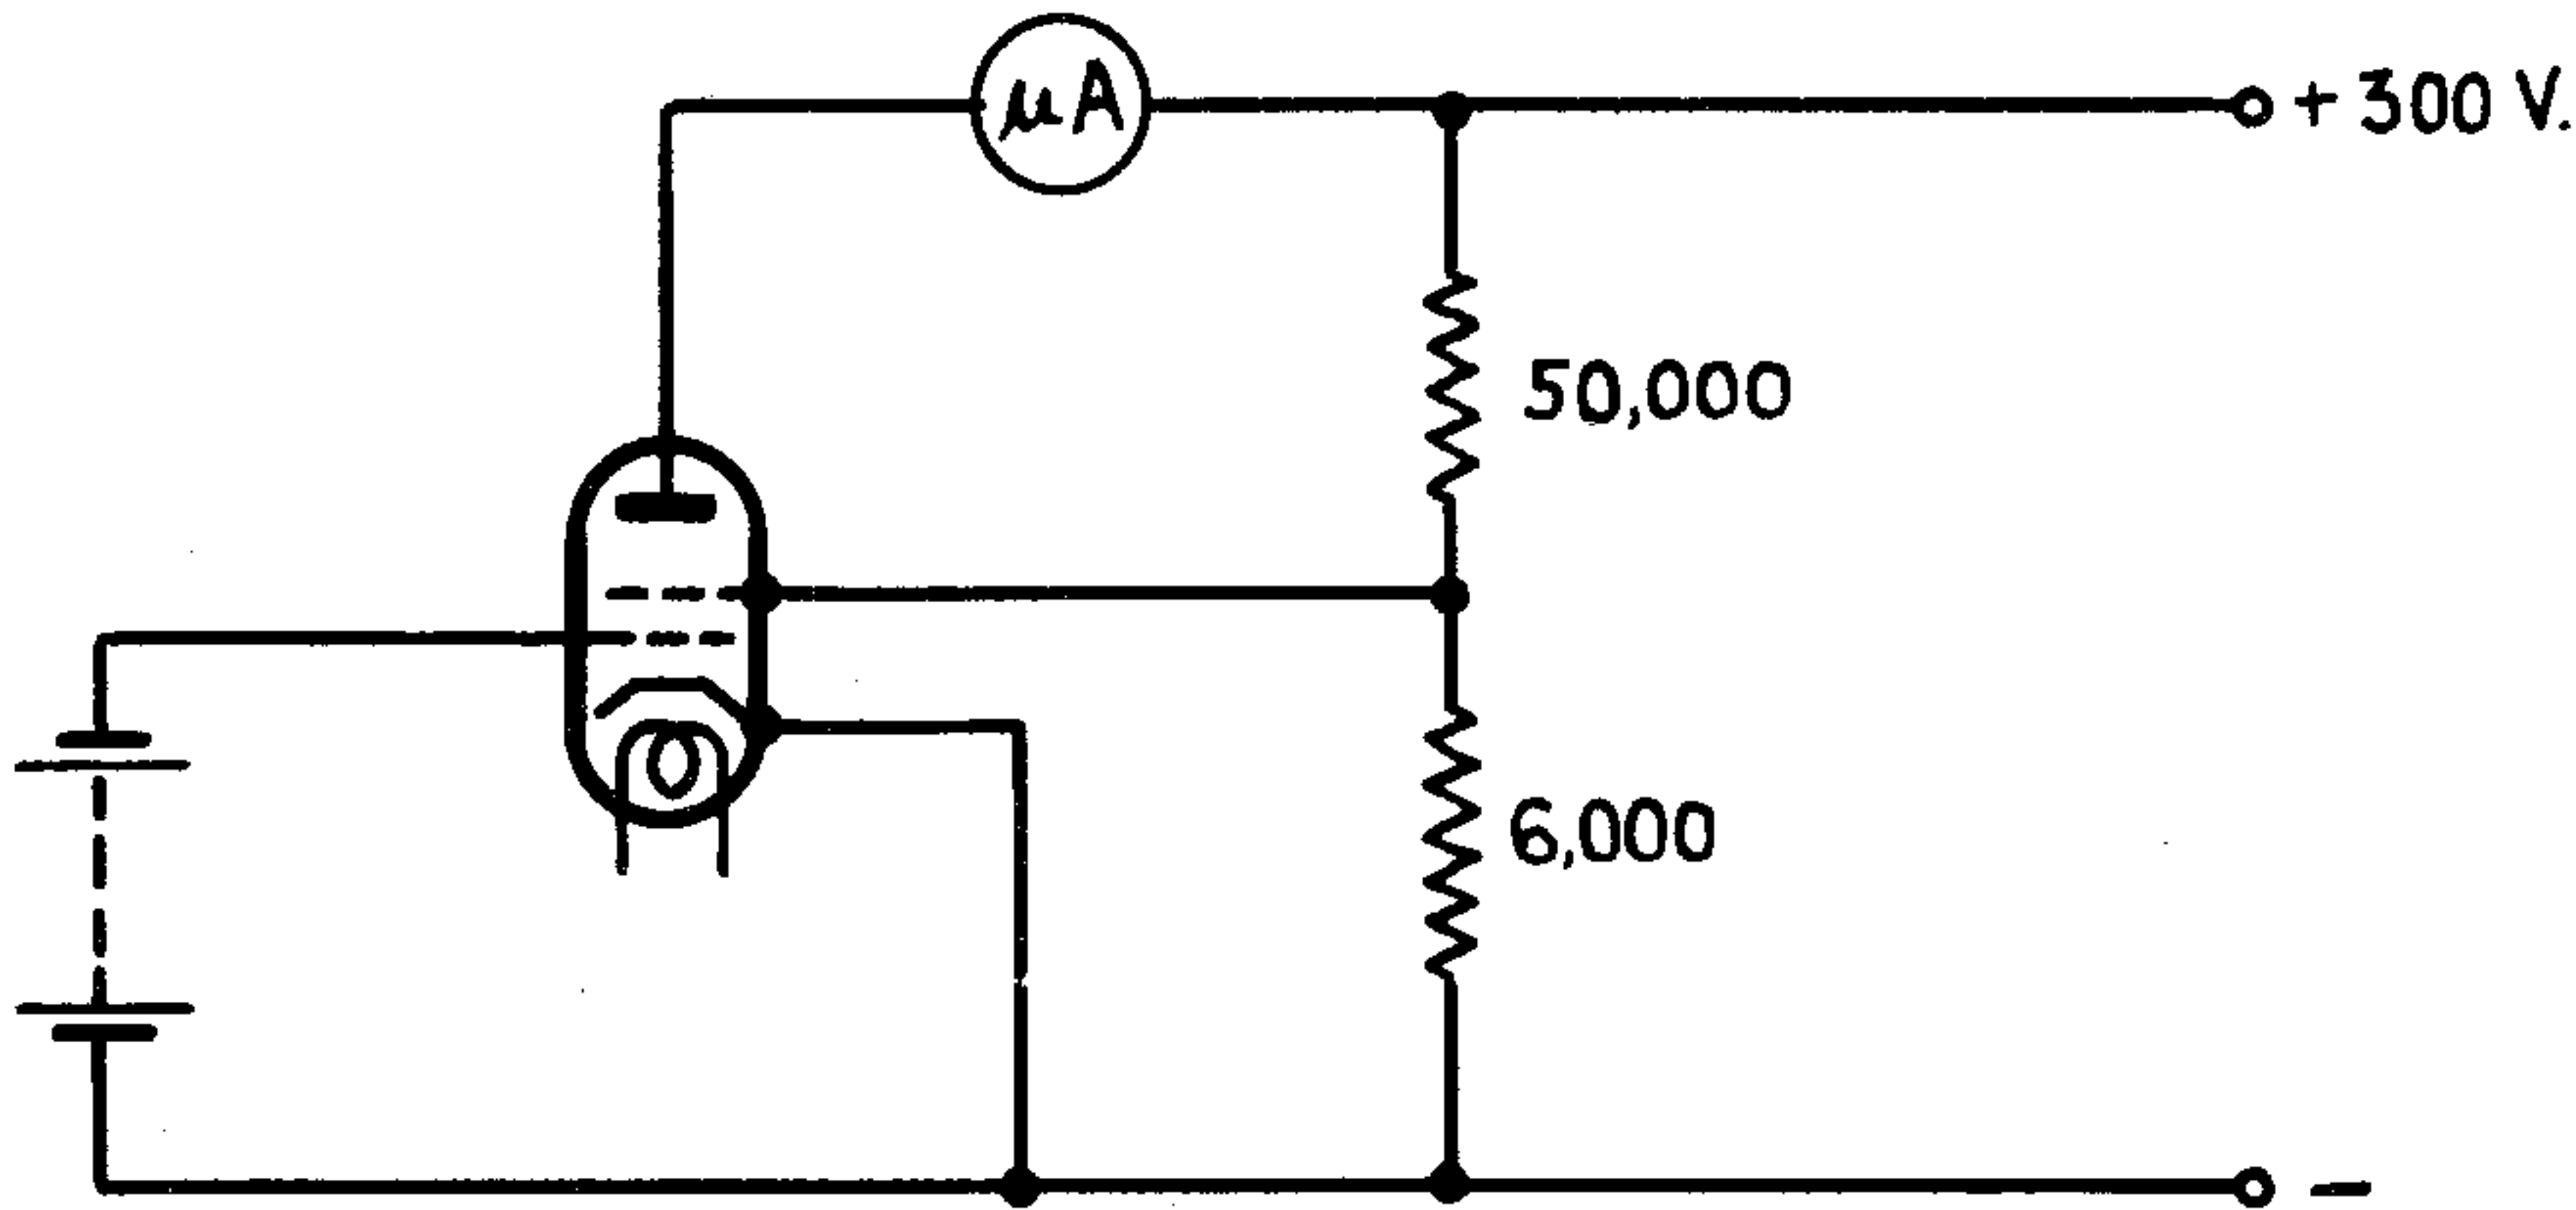

FIG. 2.
2. For test (f), the anode and screen grid voltages shall be derived from the network as in Fig.2, page 3.